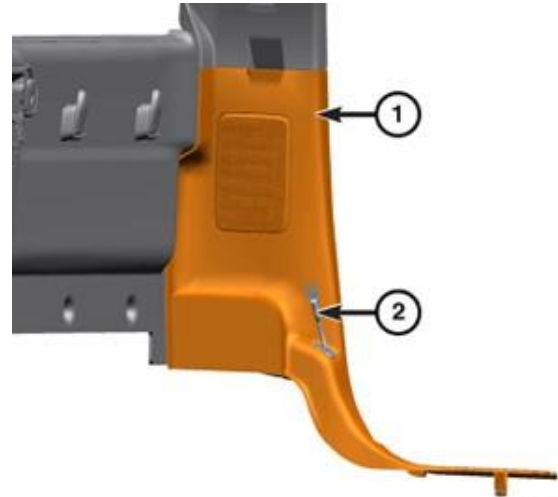

Figure 7 – Lower B-Pillar Trim Panel
6. **Remove the lower B-pillar trim panel from only one side:** Using a trim stick or equivalent release the retaining clips from the B-pillar and slide the tensioner cable through the slit on the B-pillar trim panel then remove the lower B-pillar trim panel from vehicle (Figure 7).
21. All Position the lower B-pillar trim to the B-pillar, slide the tensioner cable through the slit on the lower B-pillar trim and seat the retaining clips fully into B-Pillar (Figure 7).